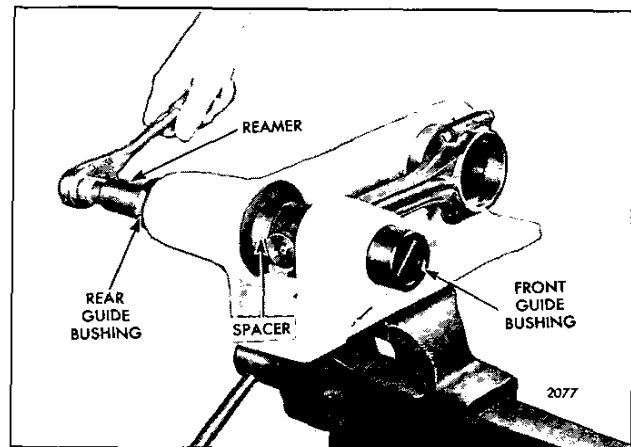

Fig. 7 - Reaming Bushings
- c. Place the crankshaft end of the connecting rod on the arbor of the fixture (Fig. 7). Tighten the nuts on the 3/8"-24 bolts (In-line and V-type engines) to 40-45 lb-ft (54-61 N·m) torque. Tighten the nuts on the 5/16"-24 bolts (early 6V engines) to 24-28 lb-ft (33-38 N·m) torque.